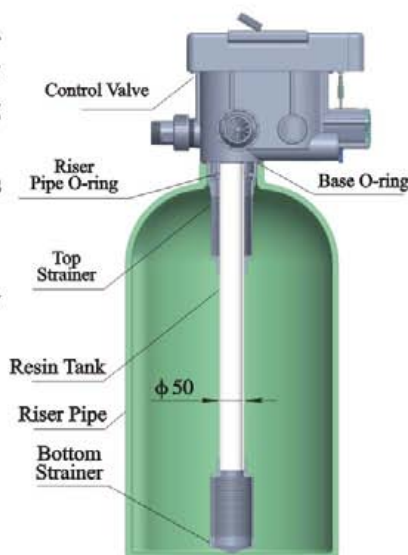

Figure1-1
- ①The filter or softener should be located close to drain.
- ②Ensure the unit is installed in enough space for operating and maintenance.
- ③Brine tank need to be close to softener.
- ④The unit should be kept away from the heater, and not be exposed outdoor. Sunshine or rain will cause the system damage.
- ⑤Please avoid to install the system in one Acid/Alkaline, Magnetic or strong vibration circumstance, because above factors will cause the system disorder.
- ⑥Do not install the filter or softener, drain pipeline in circumstance which temperature may drop below 5℃, or above 50℃.
- ⑦One place is recommended to install the system which cause the minimum loss in case of water leaking.
① Install control valve
a. As the Figure 1-1 shows, select the riser pipe with 50mm OD, glue the riser pipe to the bottom strainer and put it into the mineral tank, cut off the exceeding tube out of tank top opening.